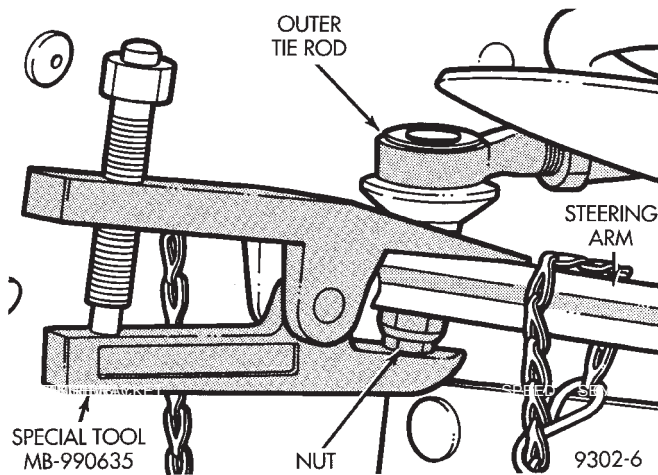

Fig. 3 Tie Rod End Removal
(6) Loosen but do not remove the outer tie rod end attaching nut (Fig. 3). Remove outer tie rod end from steering arm using Puller, Special Tool, MB-990635 or equivalent (Fig. 3).